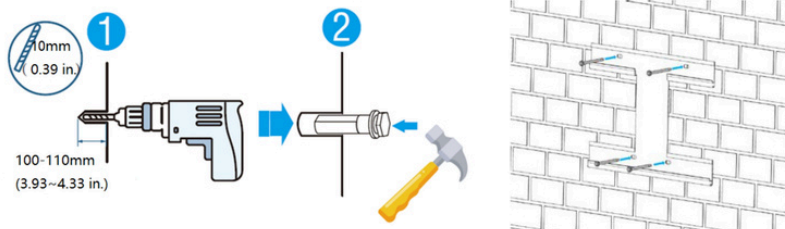

Figure 5-1
b) Choose the recommend drill head (as shown in Figure 5-1) to drill 4 holes on the wall, 100mm-110mm deep.
c) Use a proper hammer to fix the hanging plate to the wall, fit the expansion bolt (M6*100) into the holes, as shown in Figure 5-1.